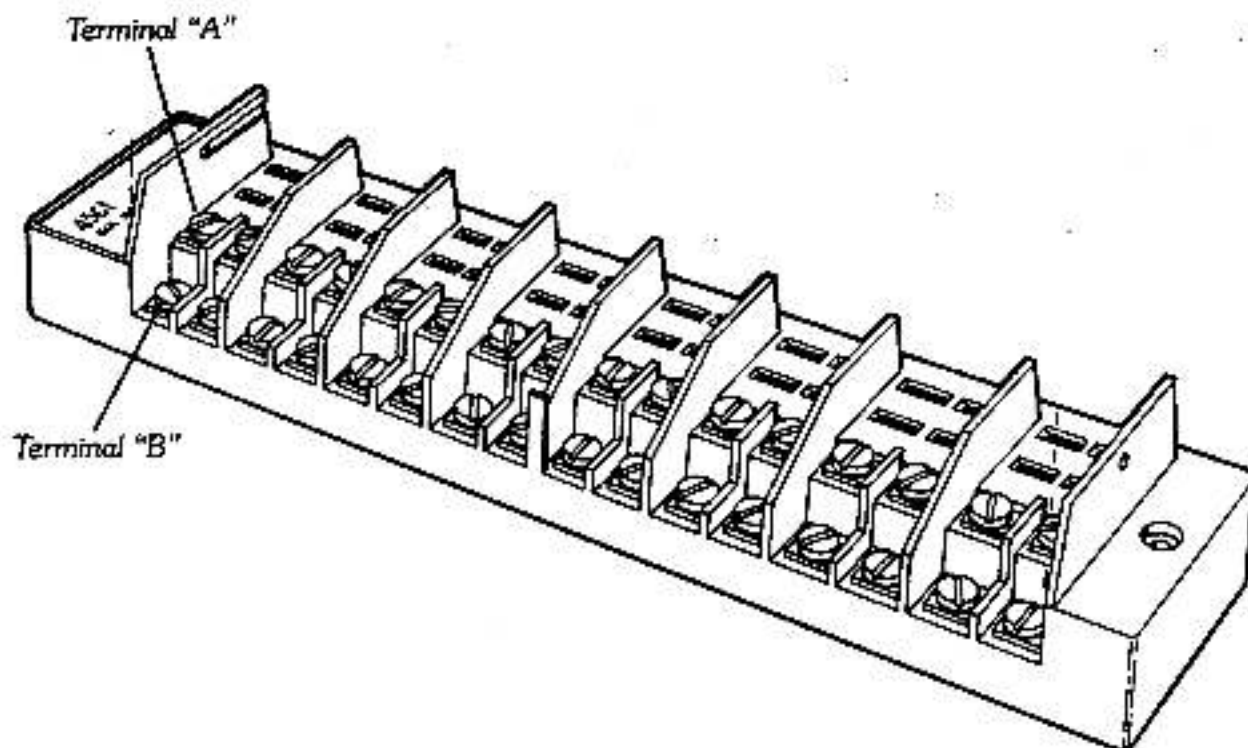

Figure 9
Field wiring connects directly to the Rail Terminal Strip. No other terminal strip is required. The terminals are arranged in two (2) tiers. (Refer to Figure 9). Each terminal is capable of accommodating two number 12 AWG wires. The smallest recommended wire size is a number 22 AWG. There are two (2) terminals per I/O channel, (A, B). Terminal "A" is the upper terminal and terminal "B" is the lower terminal. The type of I/O used will determine which terminal is common or power. Refer to write up on I/O modules.